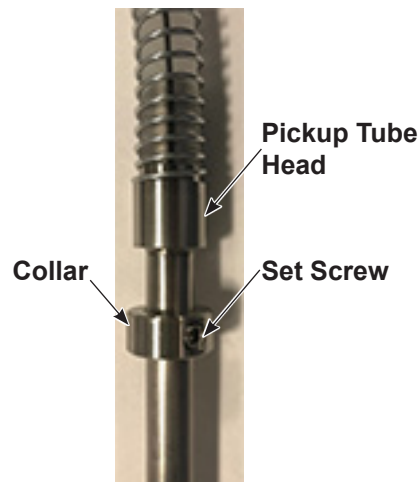

Figure 6 Install Collar
4. See Figure 6. Loosen the set screw on the collar and slide collar up over pickup tube toward the pickup tube head. Leave about 50 mm (2 in.) of space between pickup tube head and collar and tighten set screw.